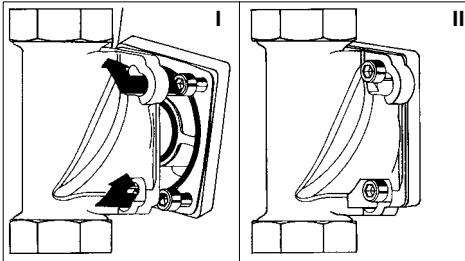

Fig. 4: Built-in rotary flange with bayonet fixture
- Position it on the built-in rotary flange so that the screw heads pass through the bayonet fixing drill holes (see fig. 4 I).
- Swivel the water treatment device approx. 30° back in a clockwise direction and tighten the four Allen screws (see fig. 4 II).